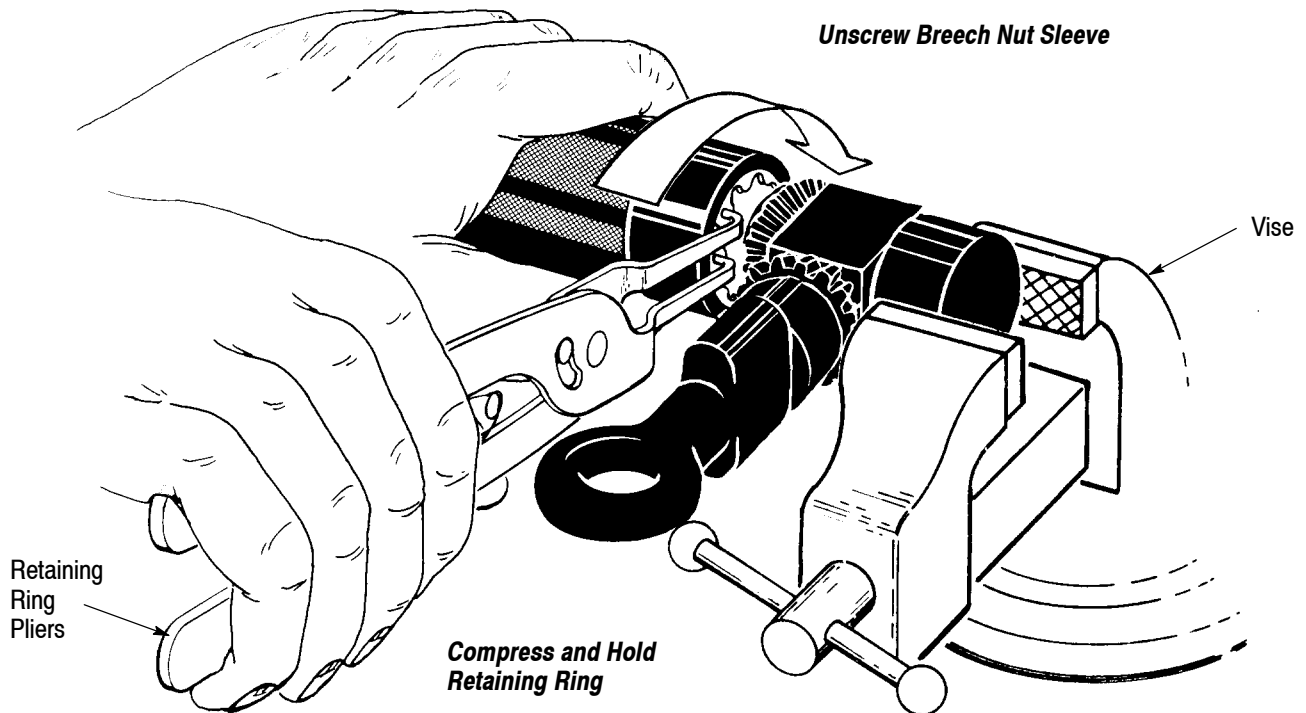

Figure 38
3. Clamp end of geared breech cap assembly in vise. Use retaining ring pliers (TRUARC No. 0309, or equivalent) to compress retaining ring, as shown in Figure 38. Hold the retaining ring compressed and unscrew the breech nut sleeve.